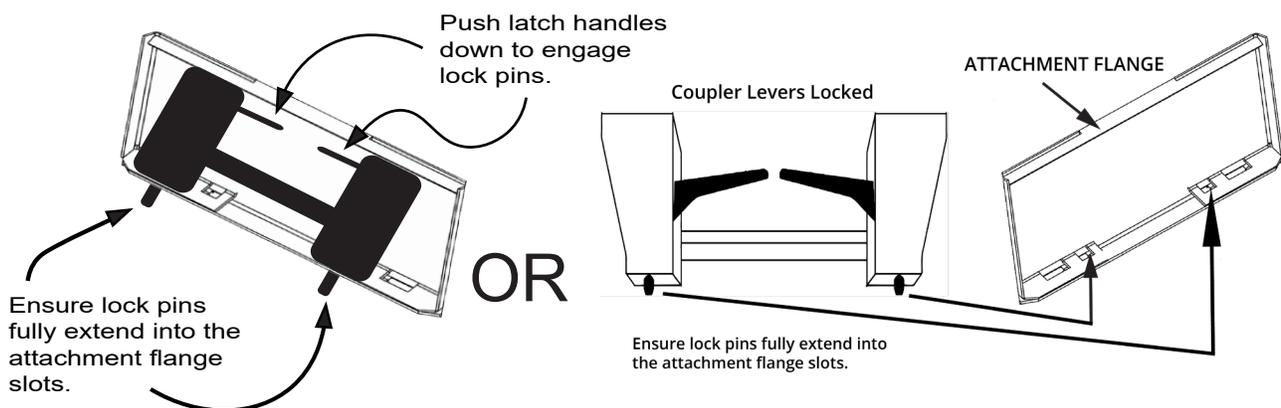

FIGURE 3.2B QUICK ATTACH COUPLER LOCKED TO ATTACHMENT BRACKET
4. Activate your skid steer's lever lock switch to lock the pins into the Swing Boom cutter's attachment bracket. If your skid steer does not have this switch, manually lock the pins as shown in Figure 3.2b below.